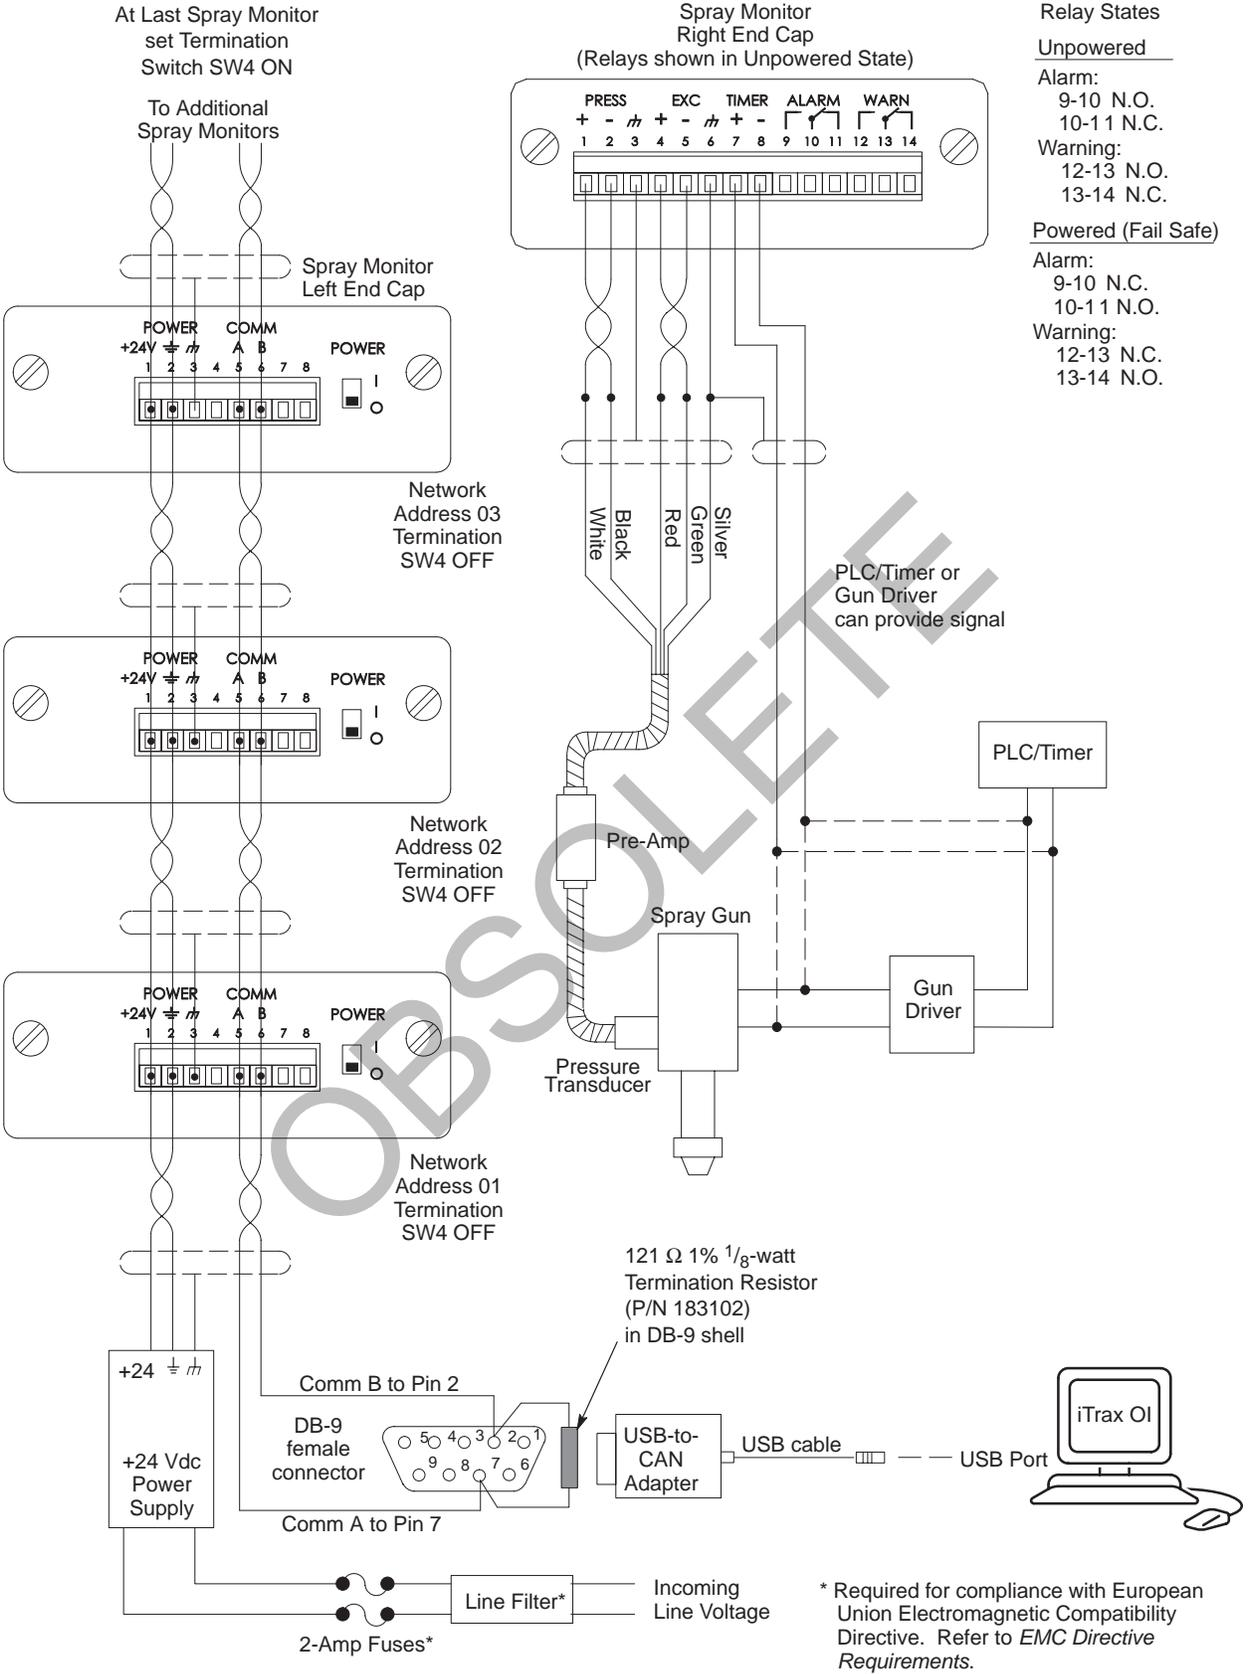

Figure 3 System Electrical Connections
See Figure 3 for electrical requirements.
Refer to Table 2 and Figure 3. Refer to *System Requirements* for cables and other hardware. The Spray Monitors are equipped with removable terminal block connectors.
See Figure 3.
- c. Install the supplied DB-9 female adapter as shown in Figure 3, with the 121-ohm resistor installed inside the adapter and wired across pins 2 and 7. The resistor terminates the CAN network.